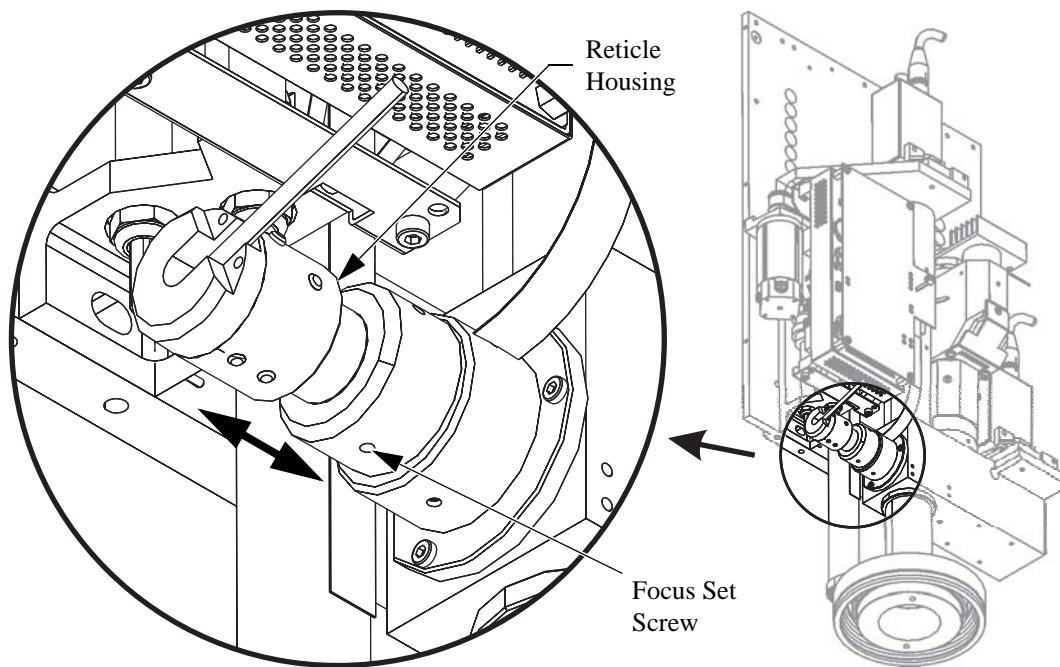

Figure 8-16 Focusing the LED Reticle
6. Use a 1.5 mm Allen wrench to loosen the set screws that secure the reticle housing in place (see Figure 8-16).